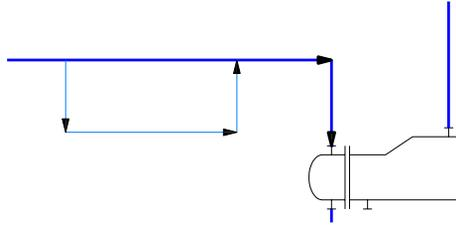

Figure 2-50 Loop created on line connecting the steam inlet nozzle
- Choose the **Secondary Line Segment** tool from the **Lines** tab in the **TOOL PALETTES - P&ID PIP** and create a loop on the line connecting the steam inlet nozzle of the heat exchanger, as shown in Figure 2-50.